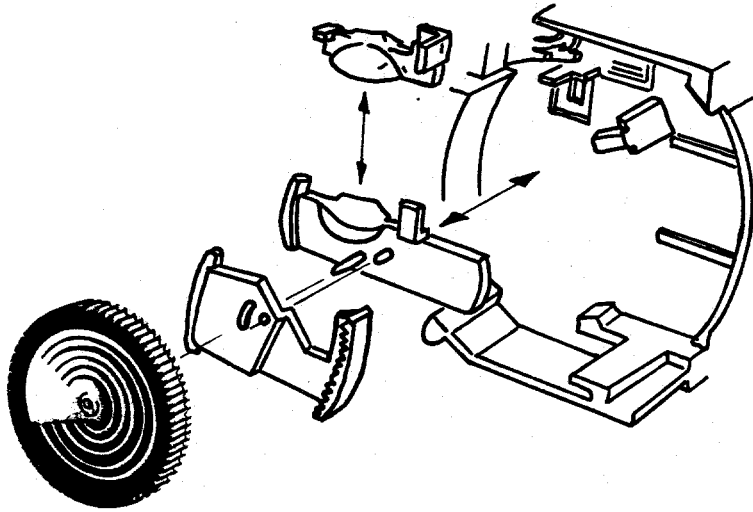

Fig. 37 Replacing photometrics on Lens Mounting Plate
41. Replace the photometrics in this order, as shown in Fig. 37: Ambient Lens Filter (green), Infrared Lens Filter, IR Calibration Wedge over the pivot on the IR Filter Lens, and the Ambient Calibration Disk with the stops on the bottom.